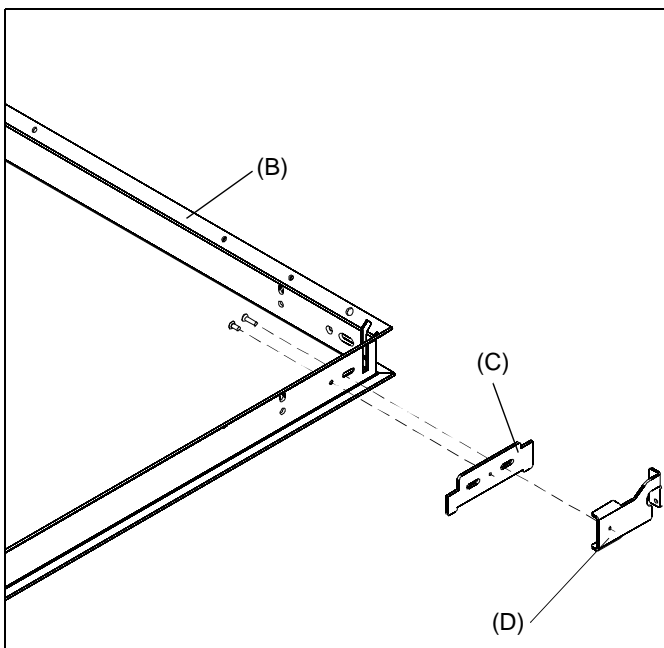

Figure 1
1. **OPTIONAL:** Attach vertical brackets (C) to both sides (in each corner) of the SL220 frame (B) using a 06-32 x 5/16" Phillips flat head screw (F). (See Figure 1)
2. Attach horizontal bracket (D) over the vertical bracket (C) at each corner of the SL220 frame using a 06-32 x 1/2" Phillips flat head screw (E). (See Figure 1)